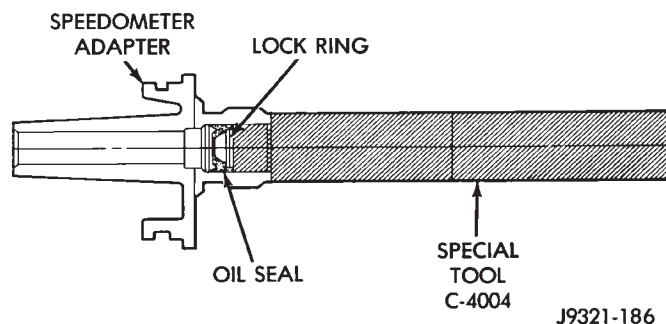

Fig. 10 Replacing Speedometer Adapter Oil Seal
(4) Check speed sensor mounting area in adapter. If transmission fluid is found in this area, adapter oil seal is leaking and will have to be replaced.
(5) Remove bolt and retainer securing pinion gear and adapter in overdrive housing.
(6) Carefully work adapter and gear out of housing.
(7) Replace adapter O-ring if cut, or worn.
(8) Replace adapter oil seal if necessary. Remove old seal and start new one in adapter by hand. Then press seal into adapter with Installer Tool C-4004 until tool bottoms (Fig. 10).